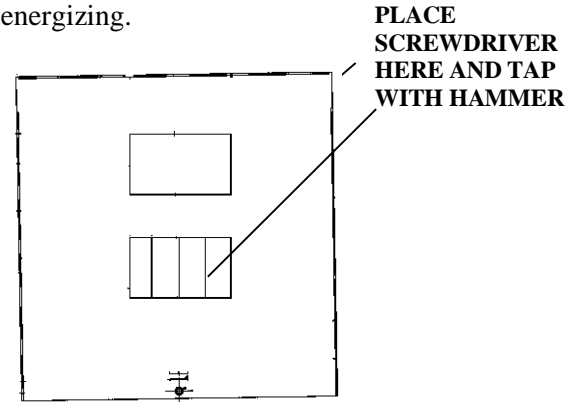

Figure 6
11. Remove shield knockouts (Figure 6)